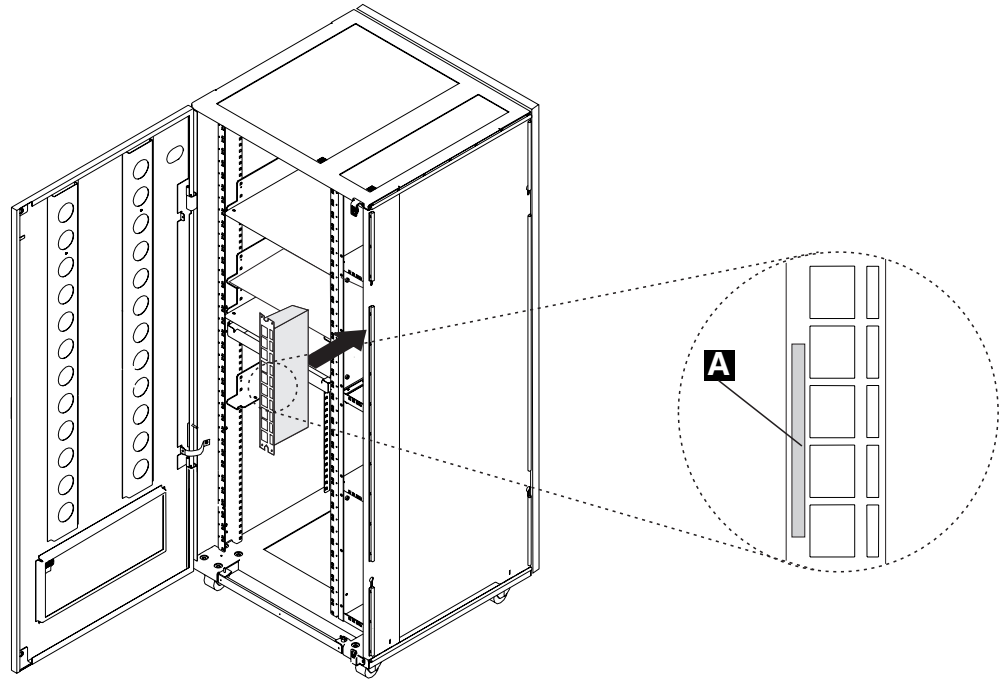

Figure 1-15. Installing the 8228 (Controller Expansion Rear Side)
6. Install the 8228 in a safe place near the Service Processor. If you received a controller expansion, the 8228 is installed on the rear side of the controller expansion using two screws (PN 1621232) and two captive nuts (PN 58G5766) see Figure 1-15 on page 1-19. Using label **A** (PN 0782966), identify the 8228 as Service Processor Access Unit.